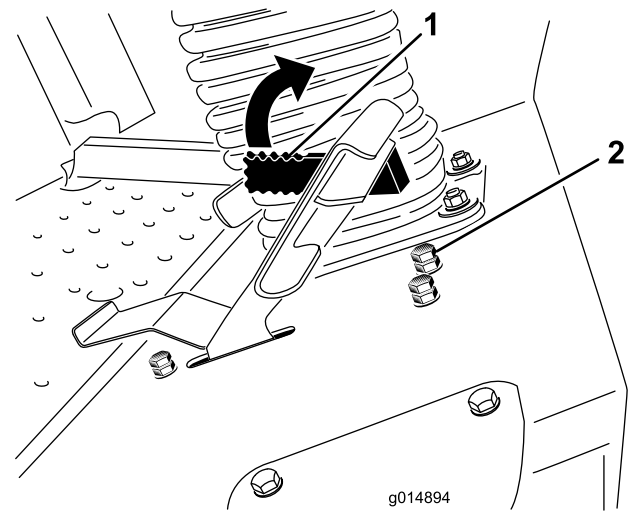

Figure 52
The speed limiter lever (Figure 52) can be flipped forward to limit the traction speed while operating.
3. Loosen the jam nut on the speed limiter stop bolt (Figure 52).